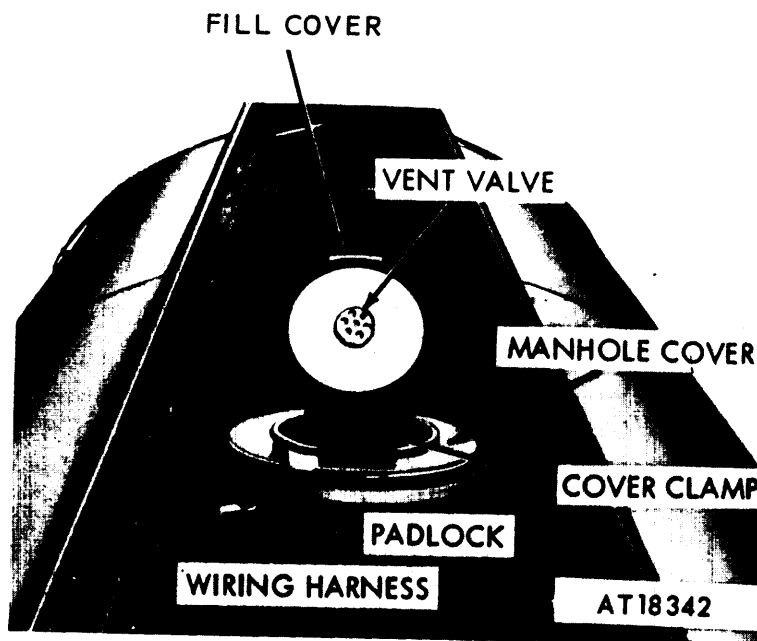

Figure 2-8. Manhole covers.
*c. Manhole Covers* (fig 2-8). The manhole covers are equipped with a locking device to hinge, latch, and lock the fill covers.